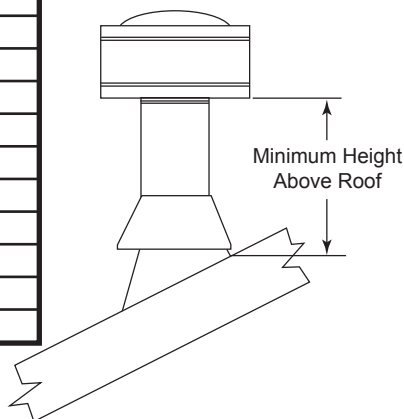

Fig. 45 Minimum Height Above Roof Requirements
11. Add lengths of pipe and firestop as necessary until assembly extends to a point above the roof which complies with local code requirements for minimum termination height and with the appliance manufacturer's installation instructions. (Fig. 45)